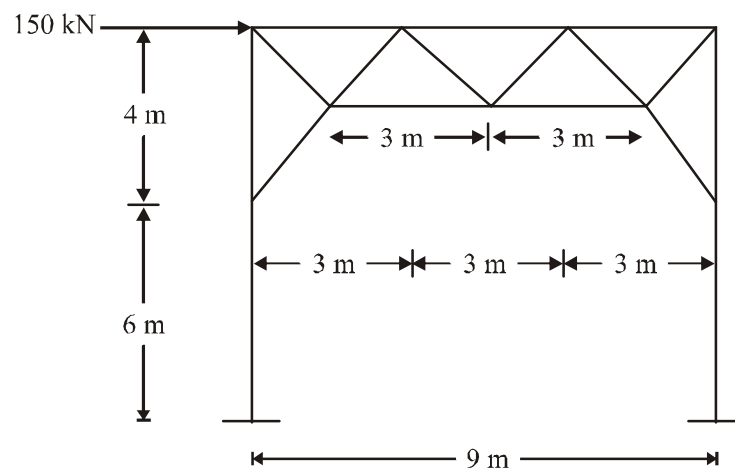

Fig. 1
- b) **Fig 1.** shows a portal bracing in a through truss girder bridge subjected to a lateral force of 150 kN. Determine the forces in various members of the portal bracing.